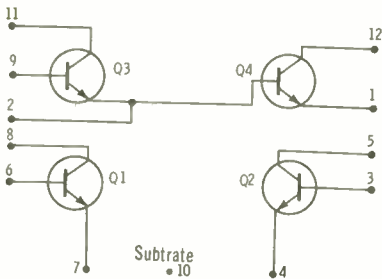

Fig. 1b Schematic and pins for IC transistor array CA3018 and CA3018A.
Many variations of bias configurations are available, but this is the basic and most simple scheme. Additionally, monolithic transistor arrays such as those shown in Figures 1b and 1c can be utilized, using similar bias techniques. (22) Examples using all of these devices will be illustrated in subsequent circuit descriptions.